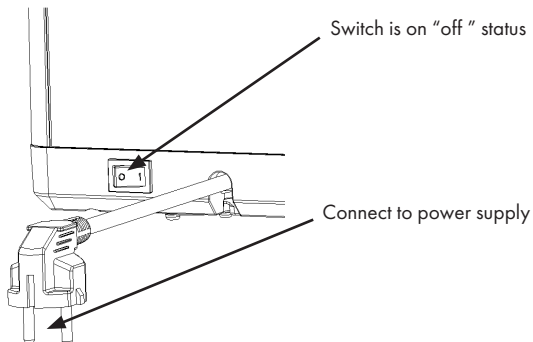

Figure 13
6. Turn on the power switch to "I" position to power on the beer cooler (while "O" position is to power off it) (see figure 13).